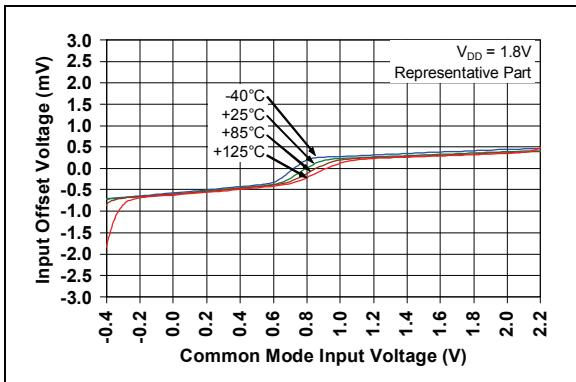

**FIGURE 1-1:** AC and DC Test Circuit for Most Specifications.
**Electrical Characteristics:** Unless otherwise indicated,  $T_A = +25^\circ\text{C}$ ,  $V_{DD} = 5.0\text{V}$ ,  $V_{SS} = \text{GND}$ ,  $V_{CM} = V_{SS}$ ,  $V_{OUT} \approx V_{DD}/2$ ,  $V_L = V_{DD}/2$ , and  $R_L = 10\text{k}\Omega$  to  $V_L$  (refer to Figure 1-1).
Electrical Characteristics: Unless otherwise indicated, $T_A = 25^\circ\text{C}$ , $V_{DD} = +5.0\text{V}$ , $V_{SS} = \text{GND}$ , $V_{CM} = V_{SS}$ , $V_{OUT} \approx V_{DD}/2$ , $V_L = V_{DD}/2$ , $R_L = 10\text{k}\Omega$ to $V_L$ and $C_L = 60\text{ pF}$ (refer to Figure 1-1).
The circuit used for most DC and AC tests is shown in Figure 1-1. This circuit can independently set  $V_{CM}$  and  $V_{OUT}$ ; see Equation 1-1. Note that  $V_{CM}$  is not the circuit's common mode voltage ( $(V_P + V_M)/2$ ), and that  $V_{OST}$  includes  $V_{OS}$  plus the effects (on the input offset error,  $V_{OST}$ ) of temperature, CMRR, PSRR and  $A_{OL}$ .